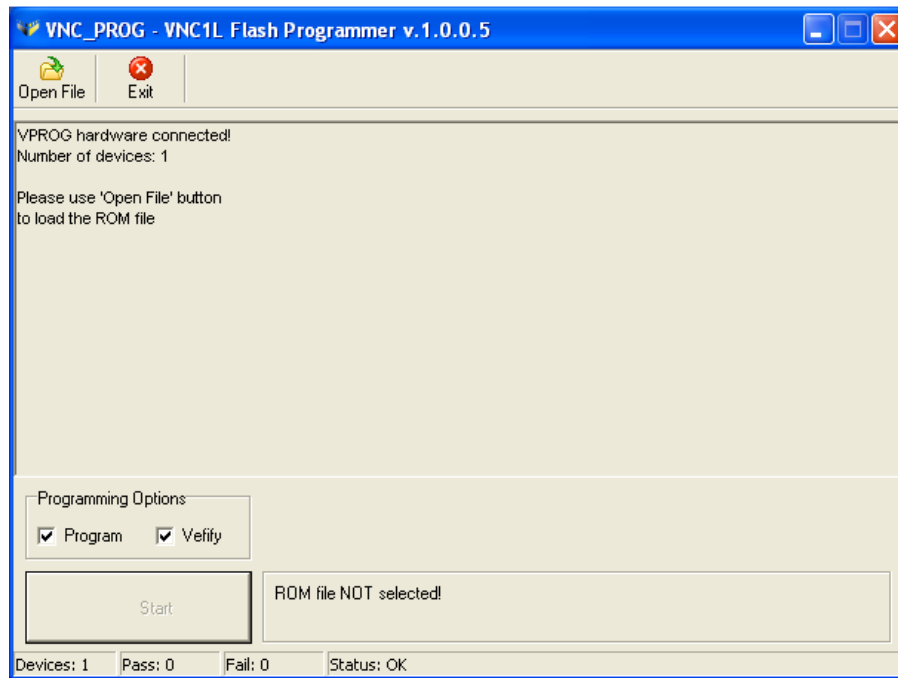

Figure 3.4 VPROG-1 Initial User Interface
1. Start the VNC_PROG by running the "VNC_PROG.exe" (if not already running). The GUI appears as shown in Figure 3.4: